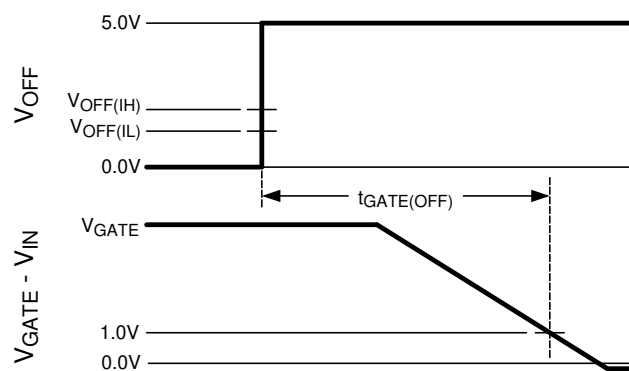
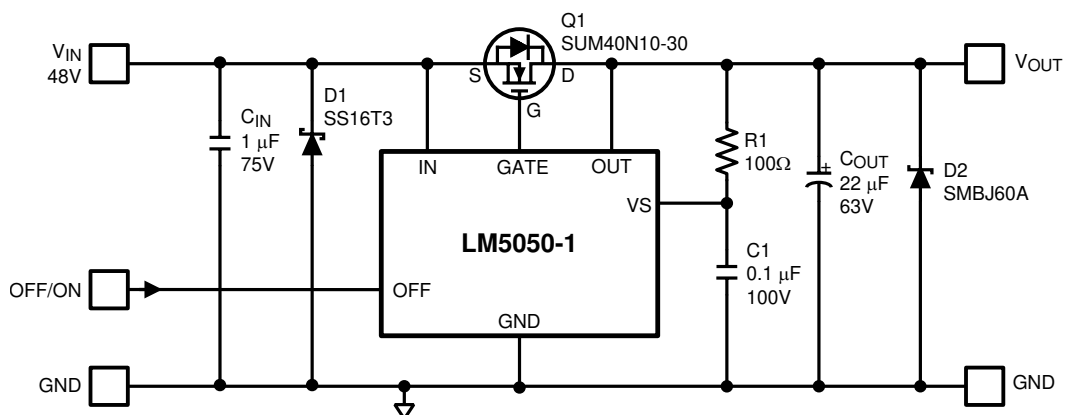

Figure 2. Gate OFF Timing for OFF Pin Low to High Transition
Figure 24. Typical Application With Input and Output Transient Protection Schematic
(3) Time from  $V_{OFF}$  voltage transition from 0 V to 5 V until GATE pin voltage falls to  $V_{IN} + 1\text{ V}$ . See Figure 2
Blocking diodes are commonly placed in series with supply inputs for the purpose of ORing redundant power sources and protecting against supply reversal. The LM5050 replaces diodes in these applications with an N-MOSFET to reduce both the voltage drop and power loss associated with a passive solution. At low input voltages, the improvement in forward voltage loss is readily appreciated where headroom is tight, as shown in Figure 2. The LM5050 operates from 5 V to 75 V and it can withstand an absolute maximum of 100 V without damage. A 12-V or 15-A ideal diode application is shown in Figure 24. Several external components are included in addition to the MOSFET, Q1. Ideal diodes, like their non-ideal counterparts, exhibit a behavior known as reverse recovery. In combination with parasitic or intentionally introduced inductances, reverse recovery spikes may be generated by an ideal diode during an reverse current shutdown. D1, D2 and R1 protect against these spikes which might otherwise exceed the LM5050 100-V survival rating. COUT also plays a role in absorbing reverse recovery energy. Spikes and protection schemes are discussed in detail in the Short Circuit Failure of an Input Supply section.
Table 1 shows the parameters for Figure 24